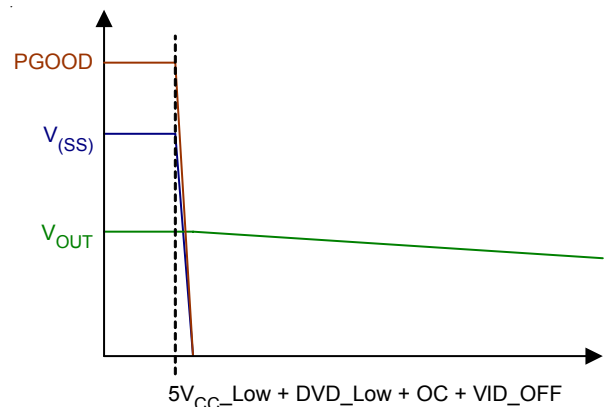

Figure 22. Waveform for 5V_{CC}_Low, DVD_Low, OC or VID_OFF
When any of the fault conditions happens, V_(SS) and PGOOD will be pulled low immediately. If the fault condition is one of 5V_{CC} low, DVD low, OC or VID_OFF, RT9245A will try to turn off both high side MOSFET and low side MOSFET. V_{OUT} will fall slowly to avoid negative V_{OUT}. The typical waveform is shown in Figure 22.